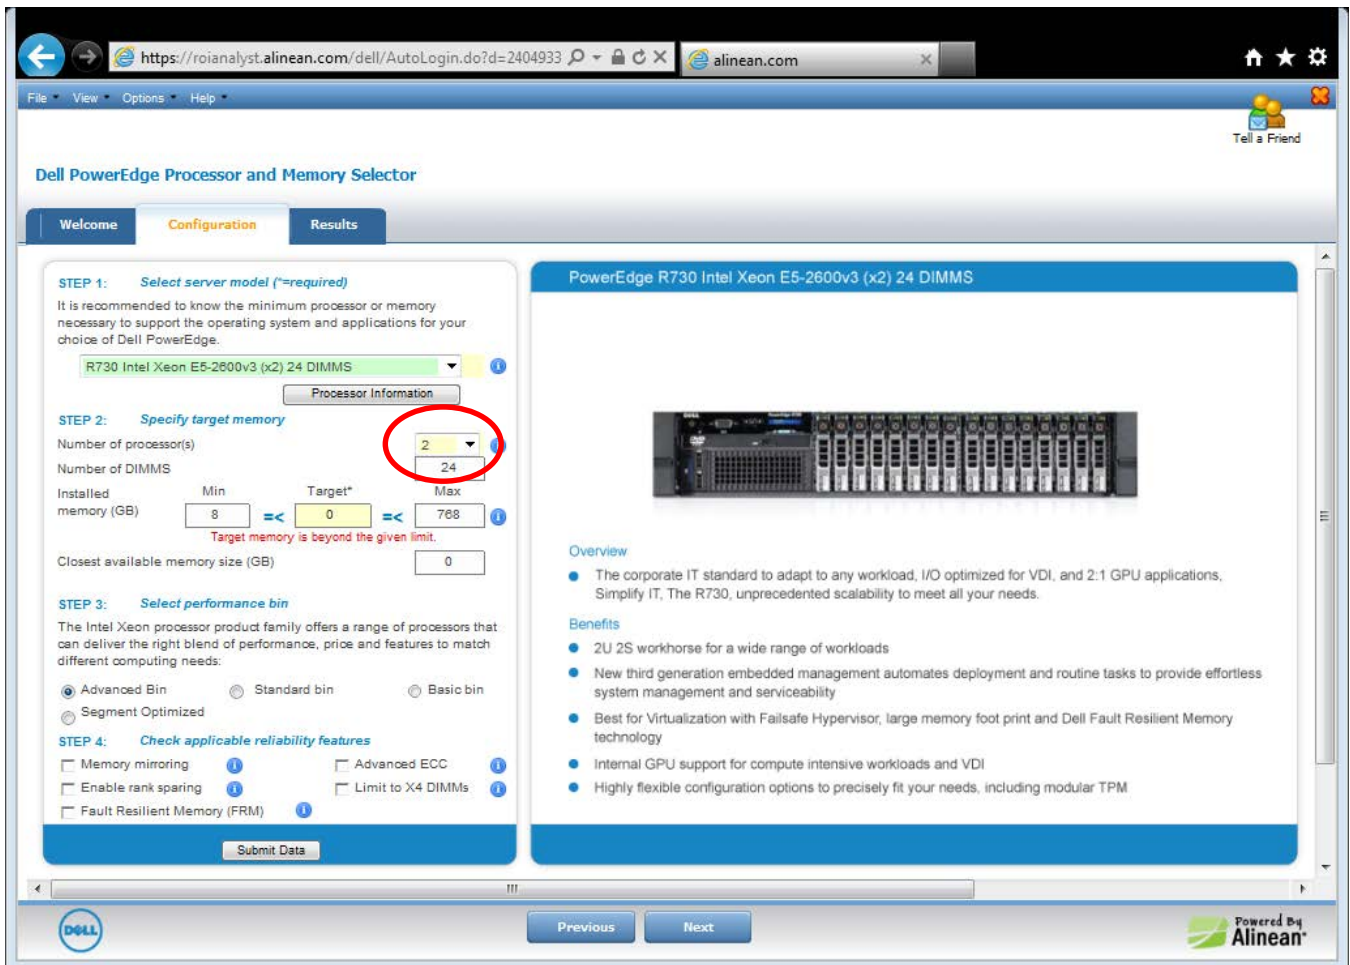

Figure 7 Dell PowerEdge Processor and Memory Selector – Setting processor count
Step 2 provides guidance for memory configuration, again based on user input. First, enter the number of processors for the server. Based on the number of processors, the **Installed memory (GB)** fields, comprising the maximum number of DIMMs and the minimum and maximum memory sizes, update automatically (Figure 7).